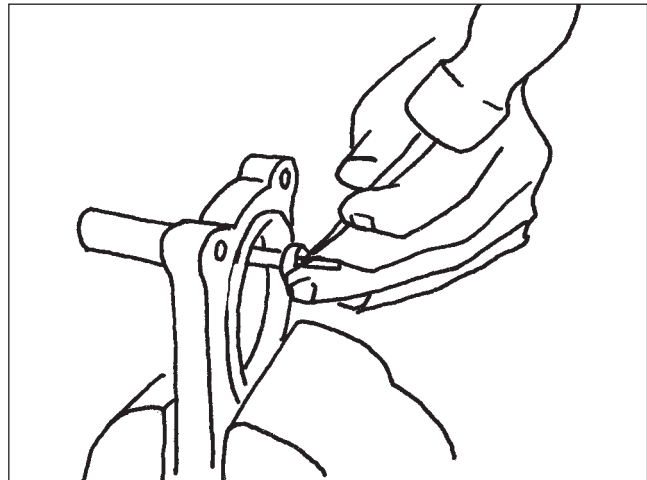

Figure 43
9. With the plunger flange against the spring pin, use a center punch and hammer to stake the threads of the plunger body. (Figure 43).